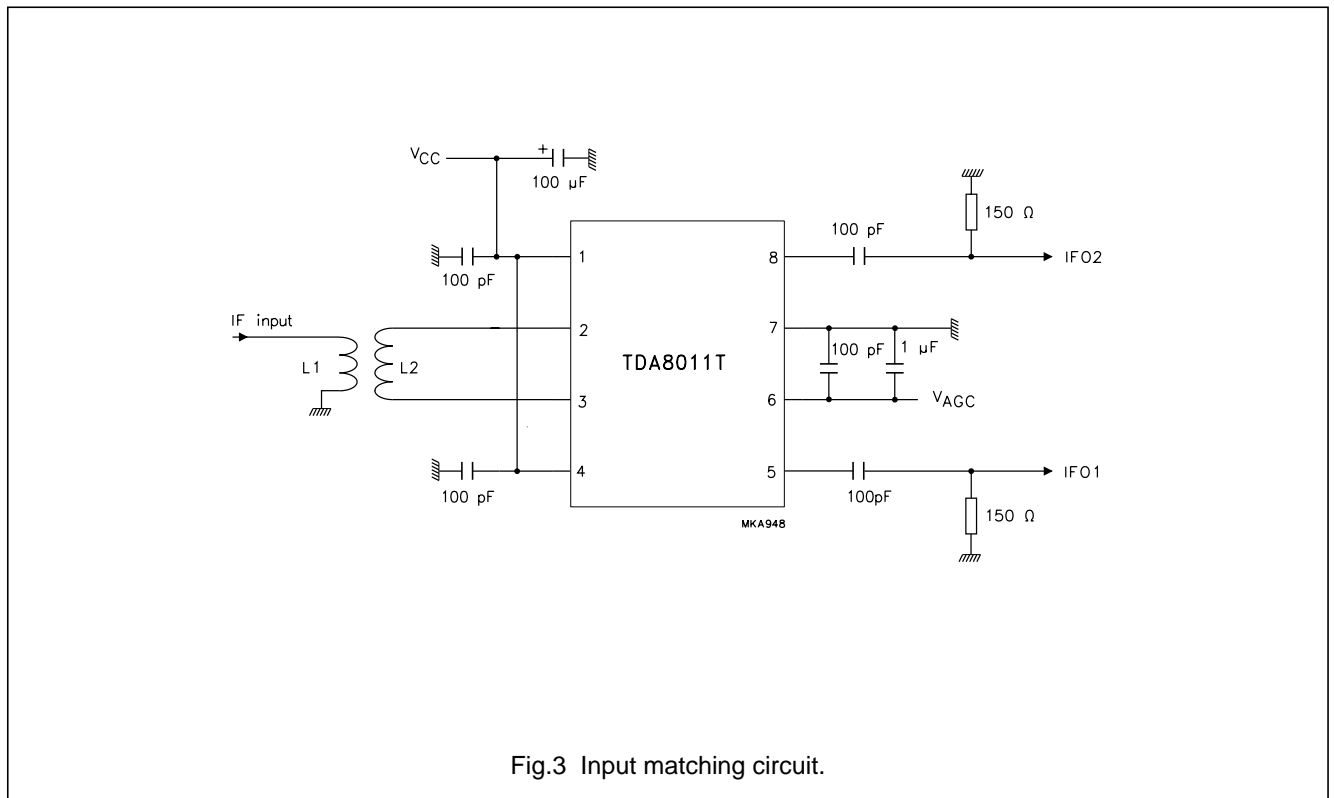

Fig.3 Input matching circuit.
- The minimum noise figure [F_(min)] is measured at f_i = 480 MHz with the input matching circuit shown in Fig.3; (L1: 4.5 turns on, Φ_{int} = 3 mm, wire = 0.4 mm; L2: 11 turns on, Φ_{int} = 3 mm, wire = 0.4 mm).